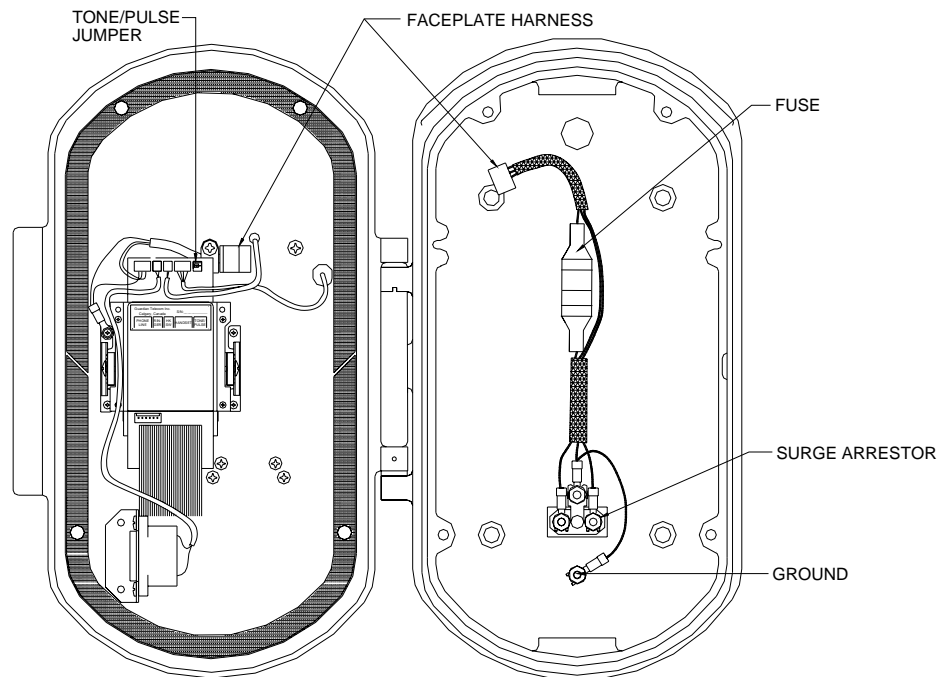

Figure 4 - Electrical Connections
*See: Figure 4 - Electrical Connections.*
**See:** *Figure 4 - Electrical Connections*